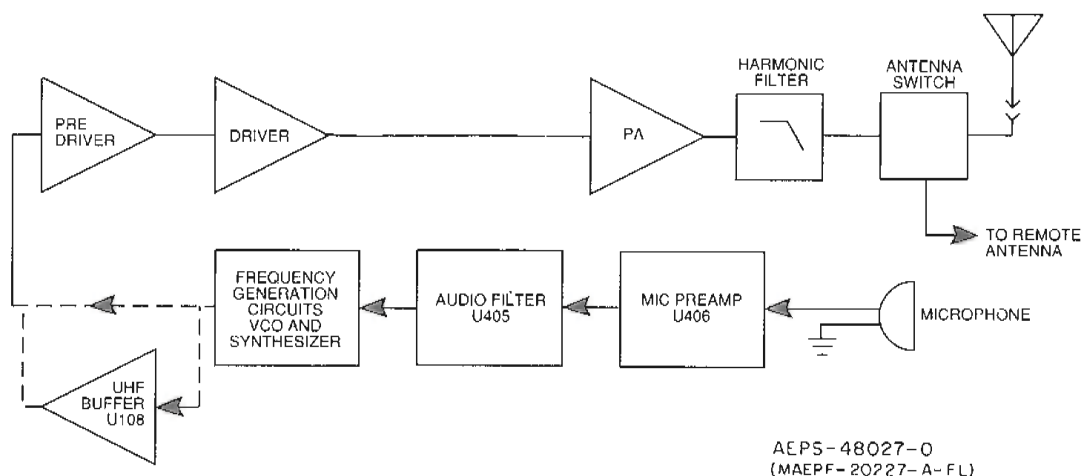

Figure 4. Transmitter Block Diagram
f. Basic Transmitter Operation (See Figure 4)